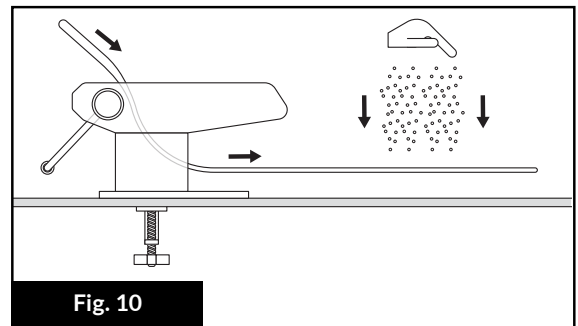

Fig. 10
4. **Prevent Sticking:** Coat the dough sheet lightly in flour before cutting and when changing roller settings (**Fig. 10**). This improves cutting performance.